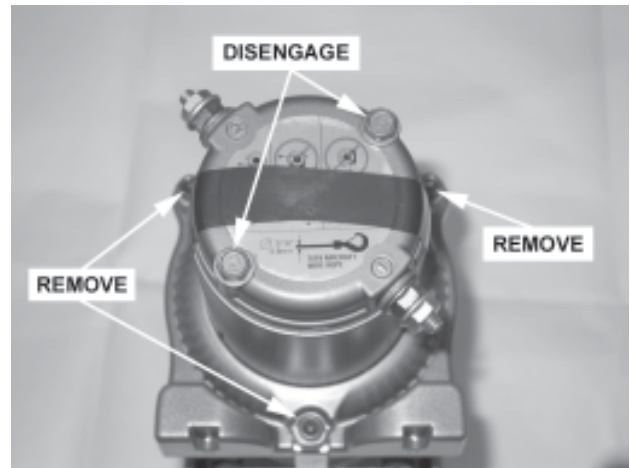

Figure 1
1. Tape the motor end cap to the motor housing as seen in **Figure 1**. **Caution: The motor end cap must NOT be removed from the motor housing, damage may occur to the winch motor.**